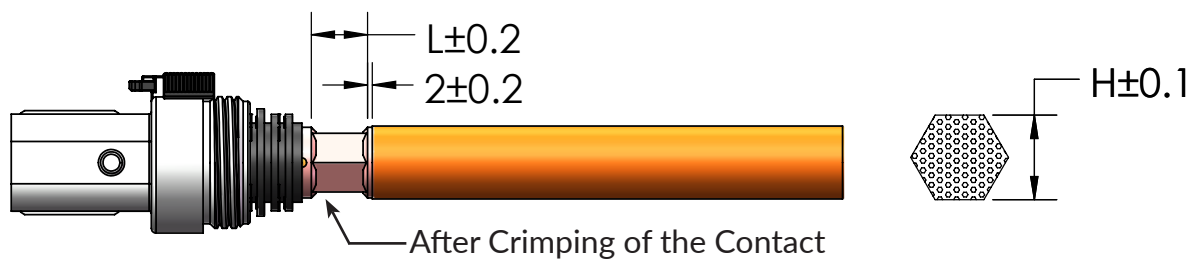

Figure 10
2) As figure 10 shown, move the cable conductor 100% duck into the crimping cup, then crimping the contact use the specified tooling, after crimping, see the figure 10 for the dimensions, see the table 7 for the crimping high “H”: